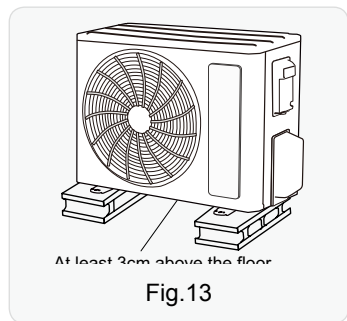

Fig.13
- (1) Take sufficient protective measures when installing the outdoor unit.
- (2) Make sure the support can withstand at least four times the unit weight.
- (3) The outdoor unit should be installed at least 3cm above the floor in order to install drain joint.(As show in Fig.13)
- (4) For the unit with cooling capacity of 2300W~5000W, 6